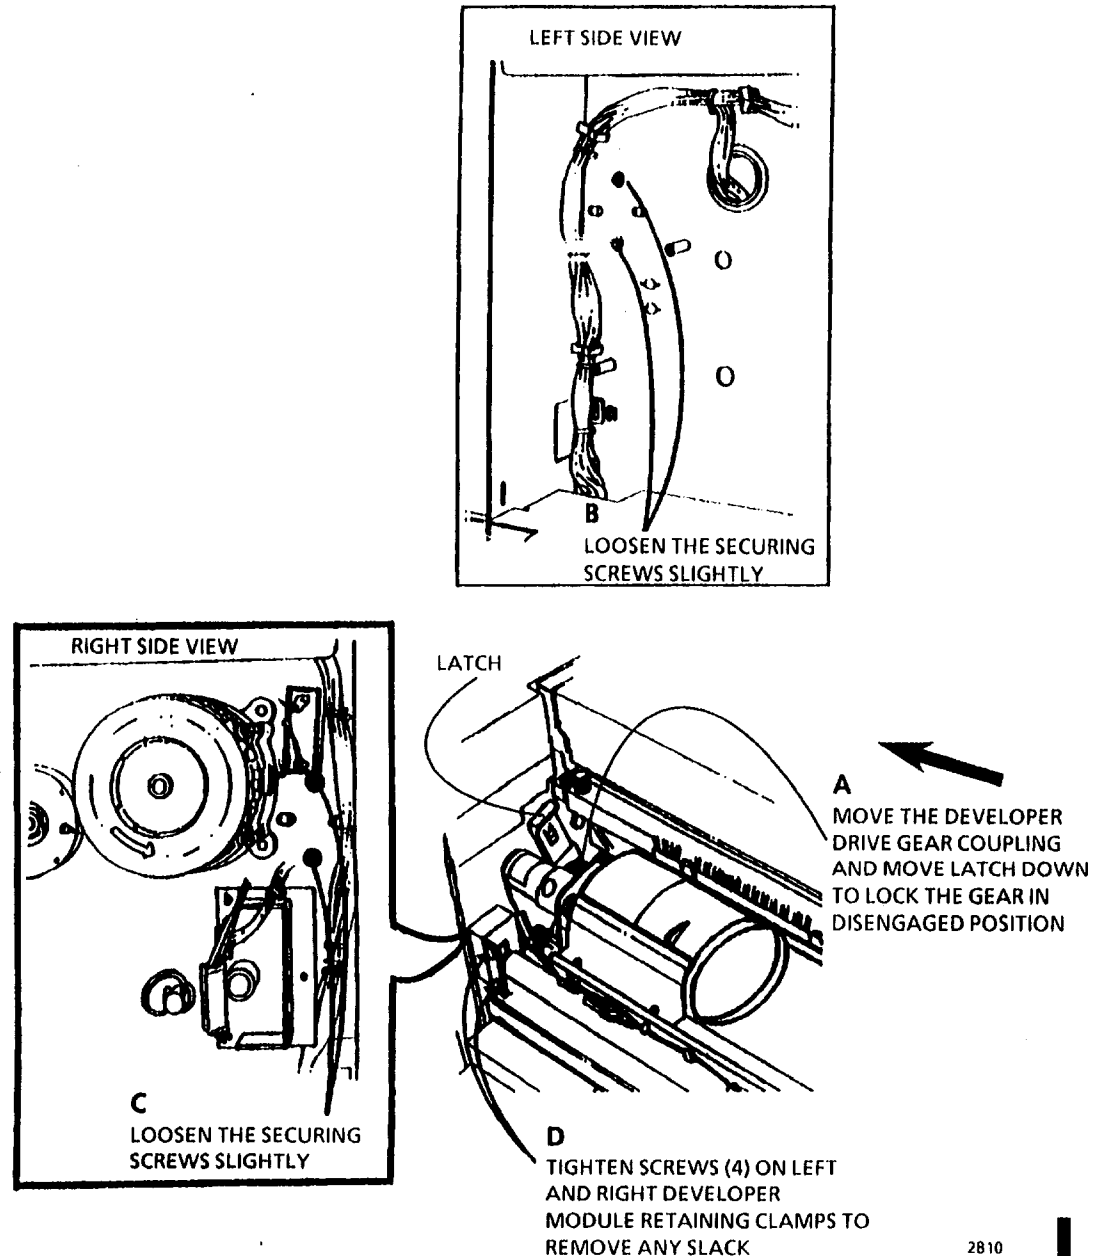

Figure 1. Adjustment of the Positioning Blocks
2. (Figure 1): Prepare to adjust the Developer Module Positioning Blocks.